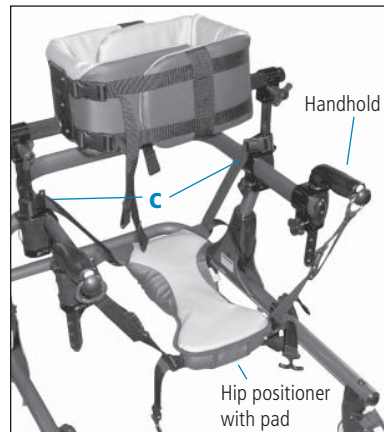

Figure 17
The hip positioner is designed to encourage forward leaning. Attach this accessory with its two clamps and handholds at the back of the top bar as shown in Figure 17. Refer to the warning on the right for important safety information.
To attach the rear of the hip positioner, clip rings to handholds as in Figure 17
See Figures 17 and 18
Users are usually more comfortable with the rear of the hip positioner substantially lower than the front, as shown in Figures 17 and 18. To achieve this, shorten front straps (E) and attach them as high as possible (C).
3. Attach the hip positioner on your Pacer (see Figure 17).